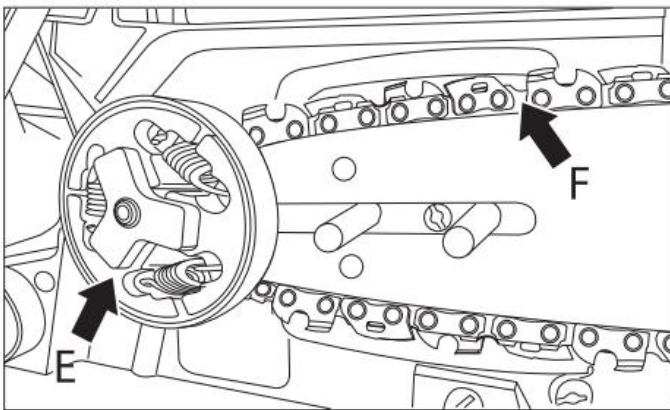

Fig. 7
6. Run the chain behind the drive chain wheel (E). Check if the chain links are well positioned between the teeth of the chain wheel (Fig. 7).
7. Insert the links into the bar groove (F) (Fig. 7).